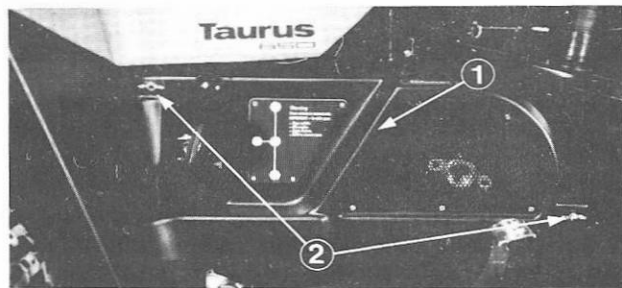

Fig. 17 (1) Right Engine Cover (2) Wing Nut
5. Remove the right engine cover by loosening the two wing nuts (Figure 17).